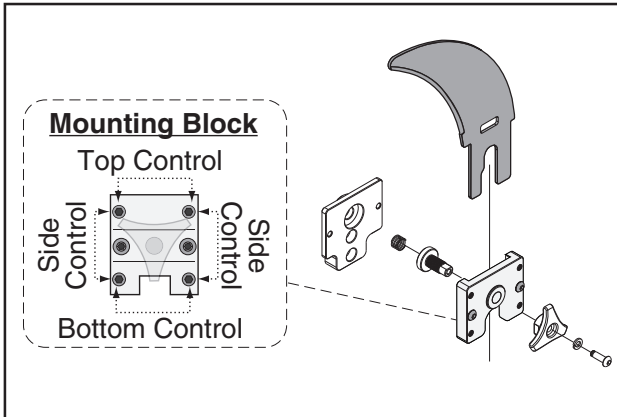

Figure 134. Set screws for adjusting spreader/riving knife position.
Figure 134 shows the set screws associated with controlling the mounting block position.
3. Loosen the two button head cap screws on the mounting block, then adjust the set screws on the block to move it in the necessary direction (see "Mounting Block" inset in **Figure 134**).